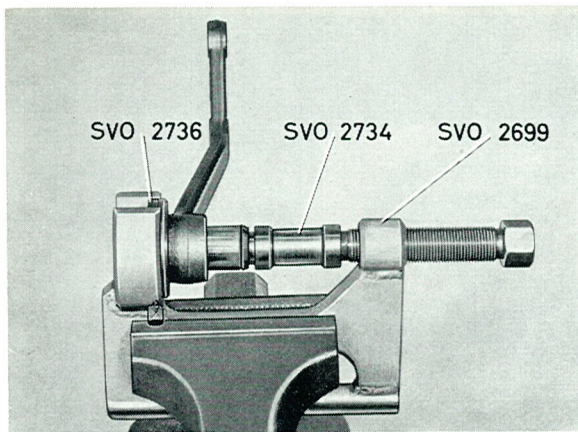

Fig. 6-50. Removing the rubber bush, relay arm
4. Place press SVO 2699 in a vice and press out the bush with tool SVO 2736 and drift SVO 2734 (Fig. 6-50).